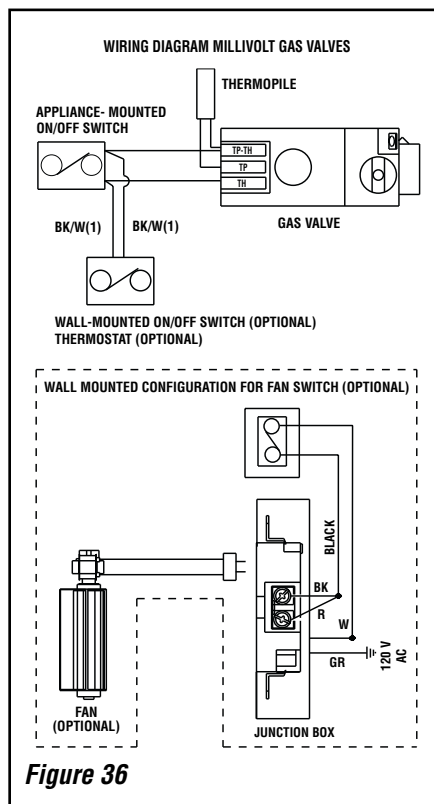

Figure 36
A. Millivolt Wiring (See Figure 36) –
(See Figure 36 on Page 23)